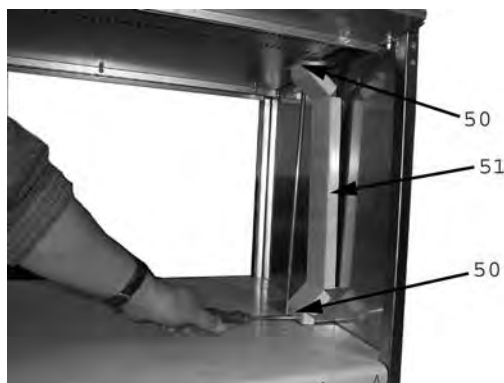

Fig. 17
- detach the power cord protective device (item 51 in Fig. 17) by unscrewing the screws shown as item 50;